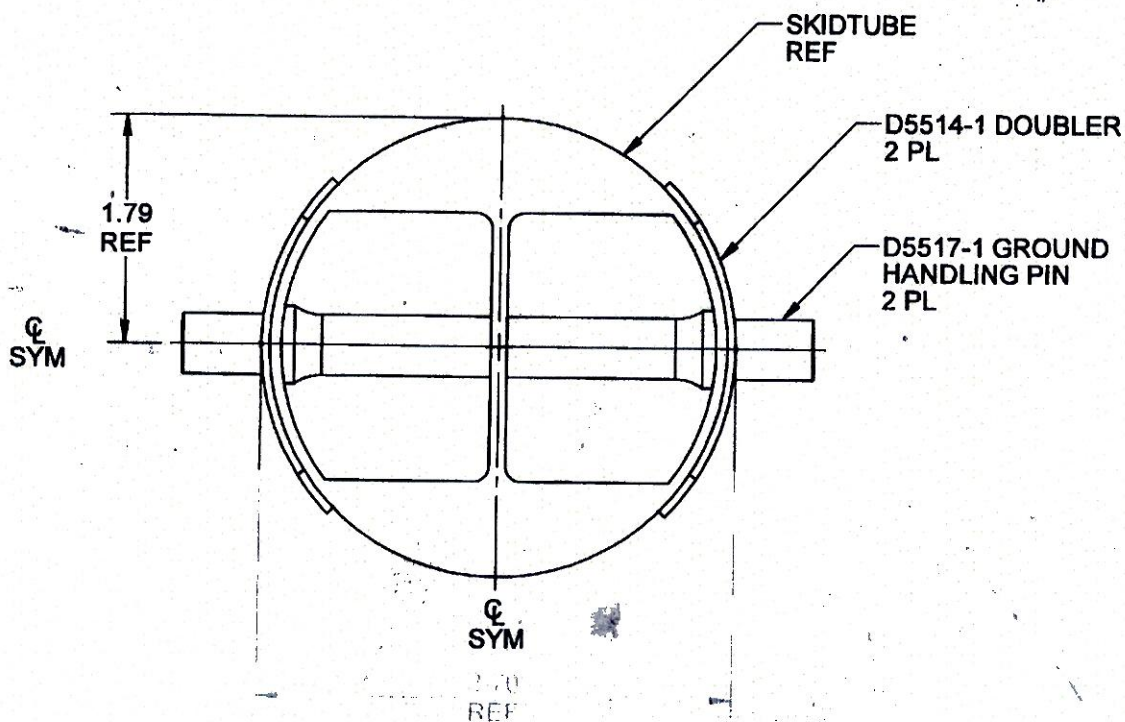

FIGURE 2
- 2.16 Ensure that the doublers and pins remain properly aligned per Figure 2 of this service instruction.
2.5 Ensure that the doubler is properly positioned on the skidtube. Test fit the doubler and D5517-1 Ground Handling Pins (hereinafter referred to as pin(s)). Reference Figure 2 of this service instruction.